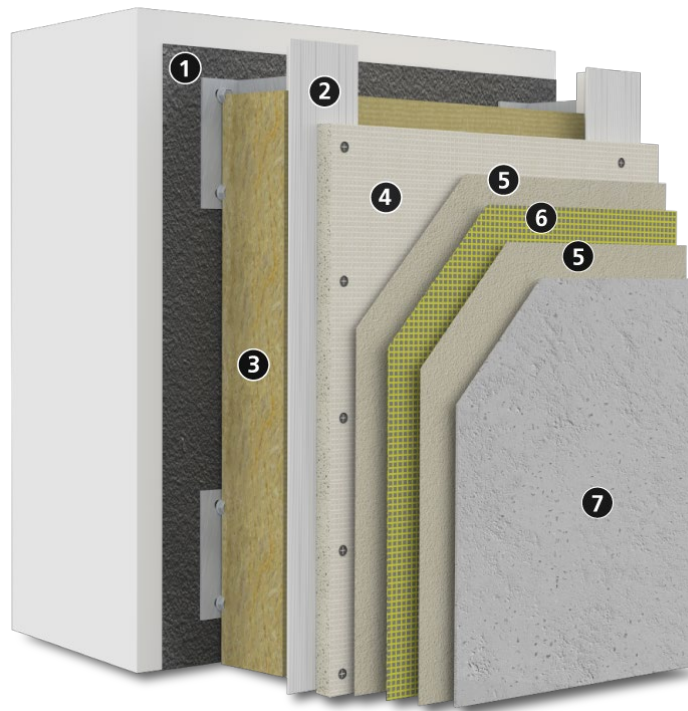

Figure 1 – StoVentec Render System
5.2 Application: The wall assembly must be constructed as illustrated in Figures 1 or 2 and as described in Table 2.
5.3 Walls of Types I, II, III, and IV construction: The walls must be constructed as illustrated in Figures 1 or 2 and as described in Table 2.
TABLE 2 – STOVENTEC SYSTEM DESCRIPTIONS (See also Figures 1 and 2)